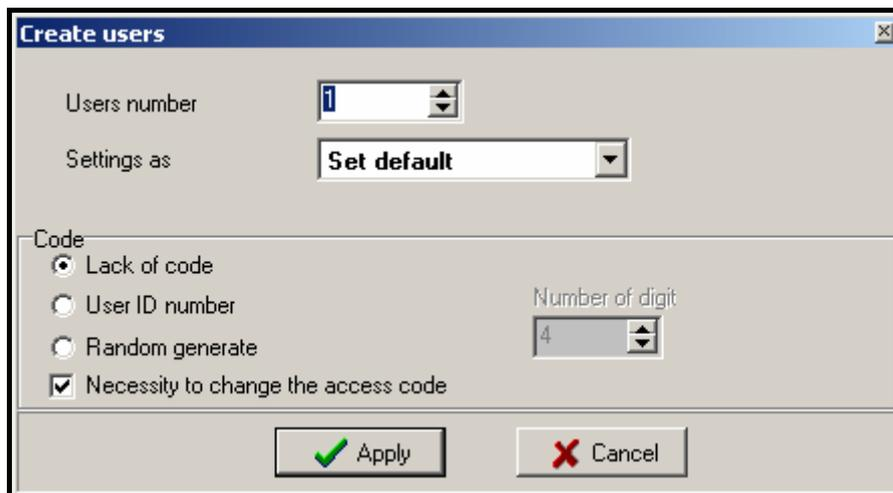

Fig. 25. Window for adding new users.
2. Click with your mouse on the button designated ADD USER. The CREATE USERS window will be displayed (see Fig. 25).
7. Having defined settings of the group, you can assign users to it. The users created earlier can be assigned to the group, e.g. by the "drag and drop" method. The newly created users will be assigned to a selected group, if exactly that group is selected in the SETTINGS AS field of the CREATE USERS window (see ADDING NEW USERS BY MEANS OF ACCO-SOFT-LT PROGRAM and Fig. 25).